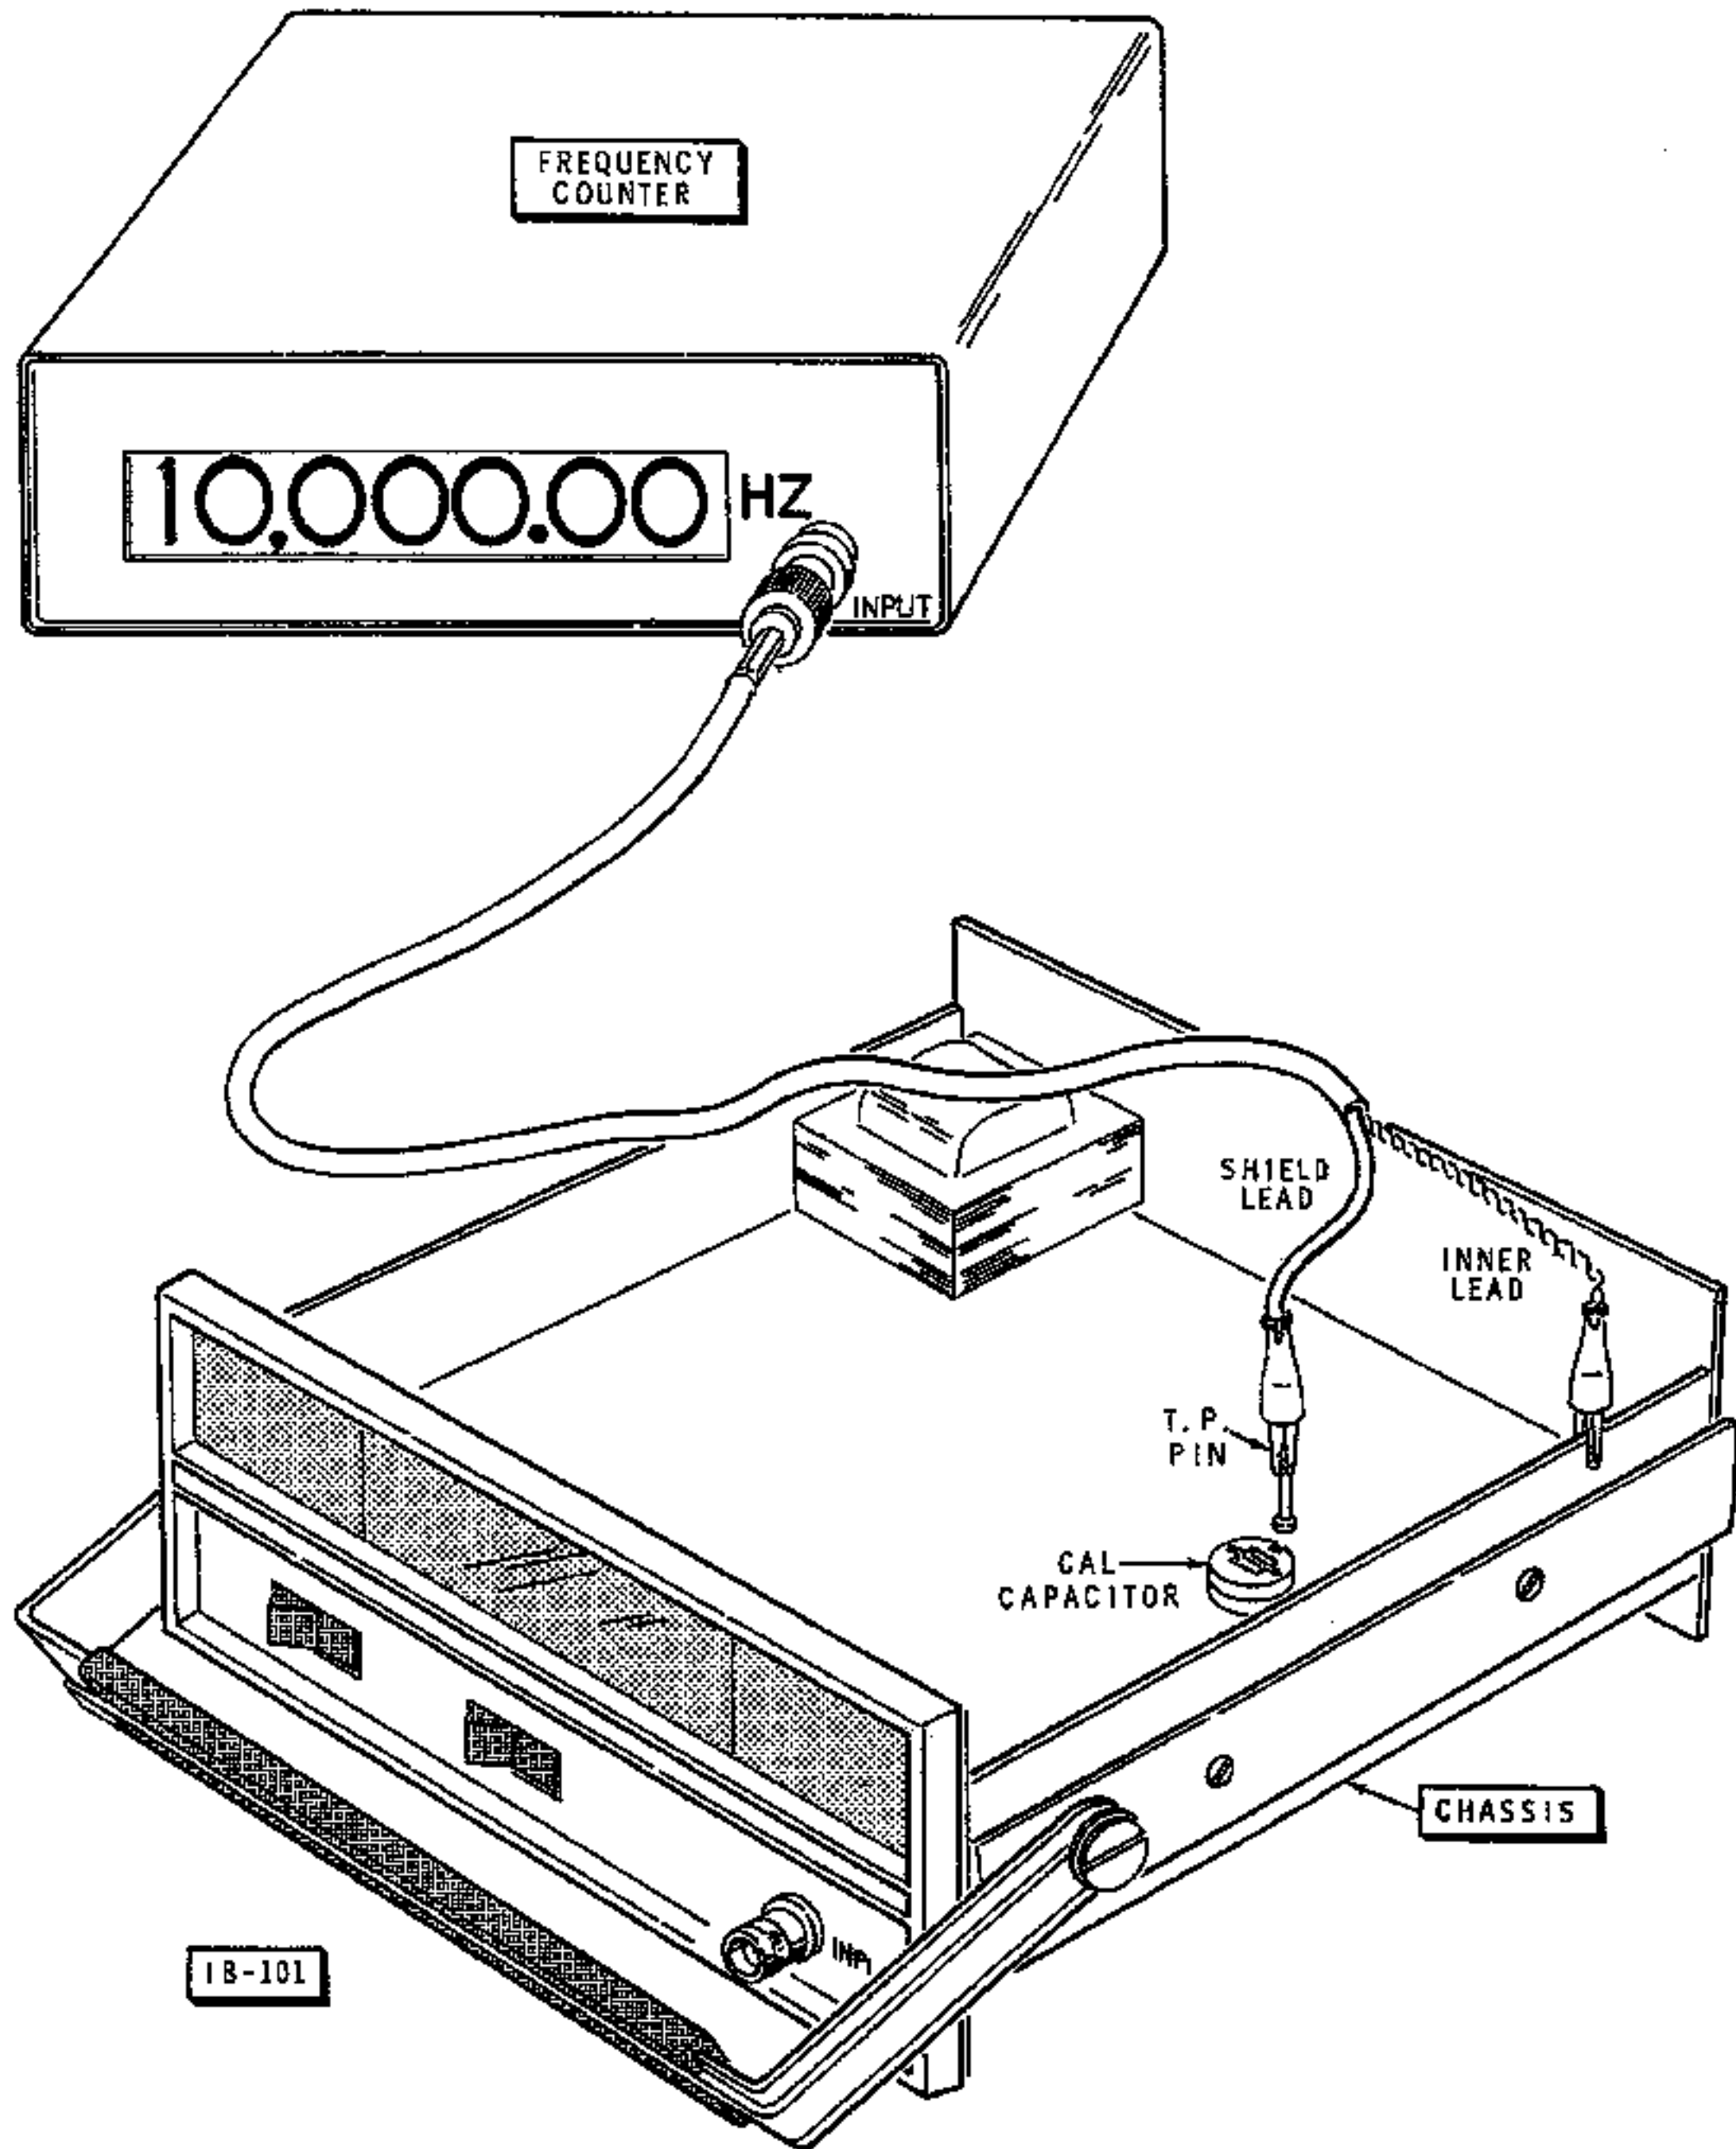

Figure 6
- () Connect the test leads of the above frequency counter to the chassis and test point (TP) pin of the IB-101. See Figure 6.